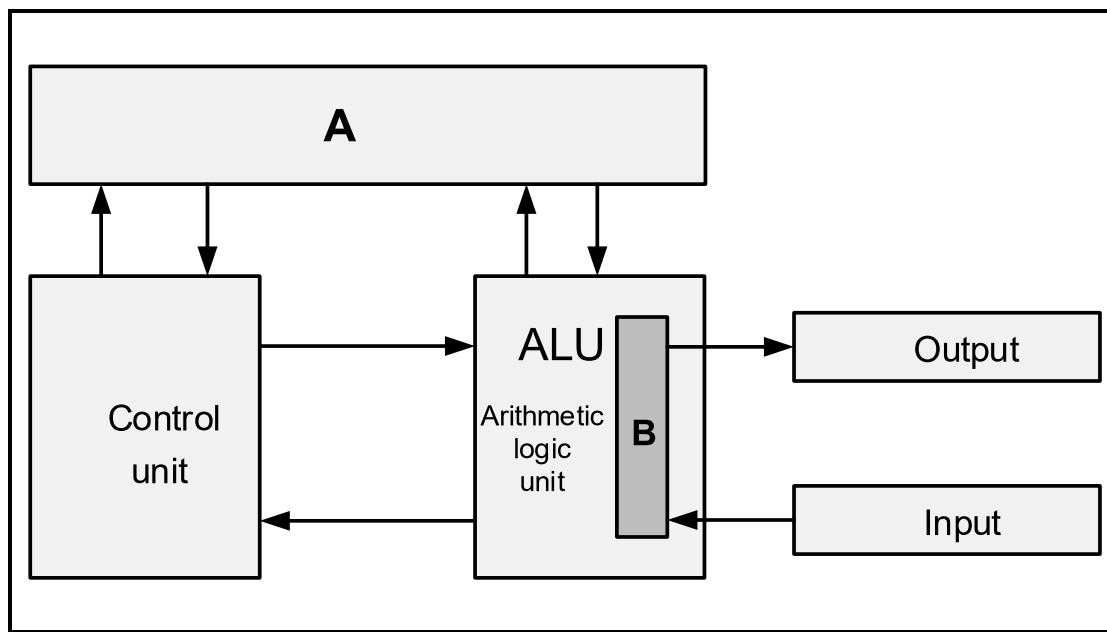

FIGURE 6.2: MICROCONTROLLER'S STRUCTURE
6.2 Refer to the block diagram in FIGURE 6.2 below and answer the questions that follow.